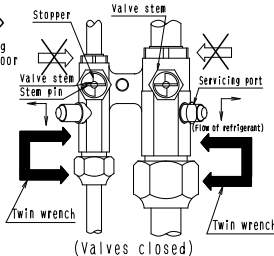

Fig. 5
The names of the parts necessary for handling the pipe stop valves for the indoor and outdoor units are described in Fig. 5. The valves are closed before shipment.
2. Stop turning the stem at the point where the stem pin comes in contact with the stopper. Now the valve is opened. (Refer to Fig. 5)
2. Stop turning the stem at the point where the stem pin comes in contact with the stopper. Now the valve is closed. (Refer to Fig. 5)